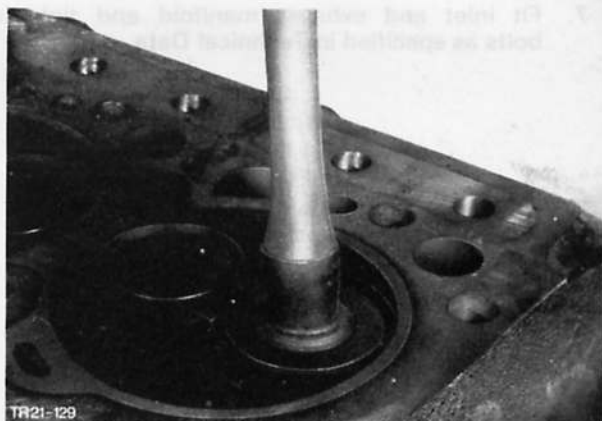

Fig. 115. Grind in valve
4. Remove carbon and other deposits from valves and cylinder head galleries, then grind in valves, Fig. 115 and remove all traces of grinding paste from cylinder head.